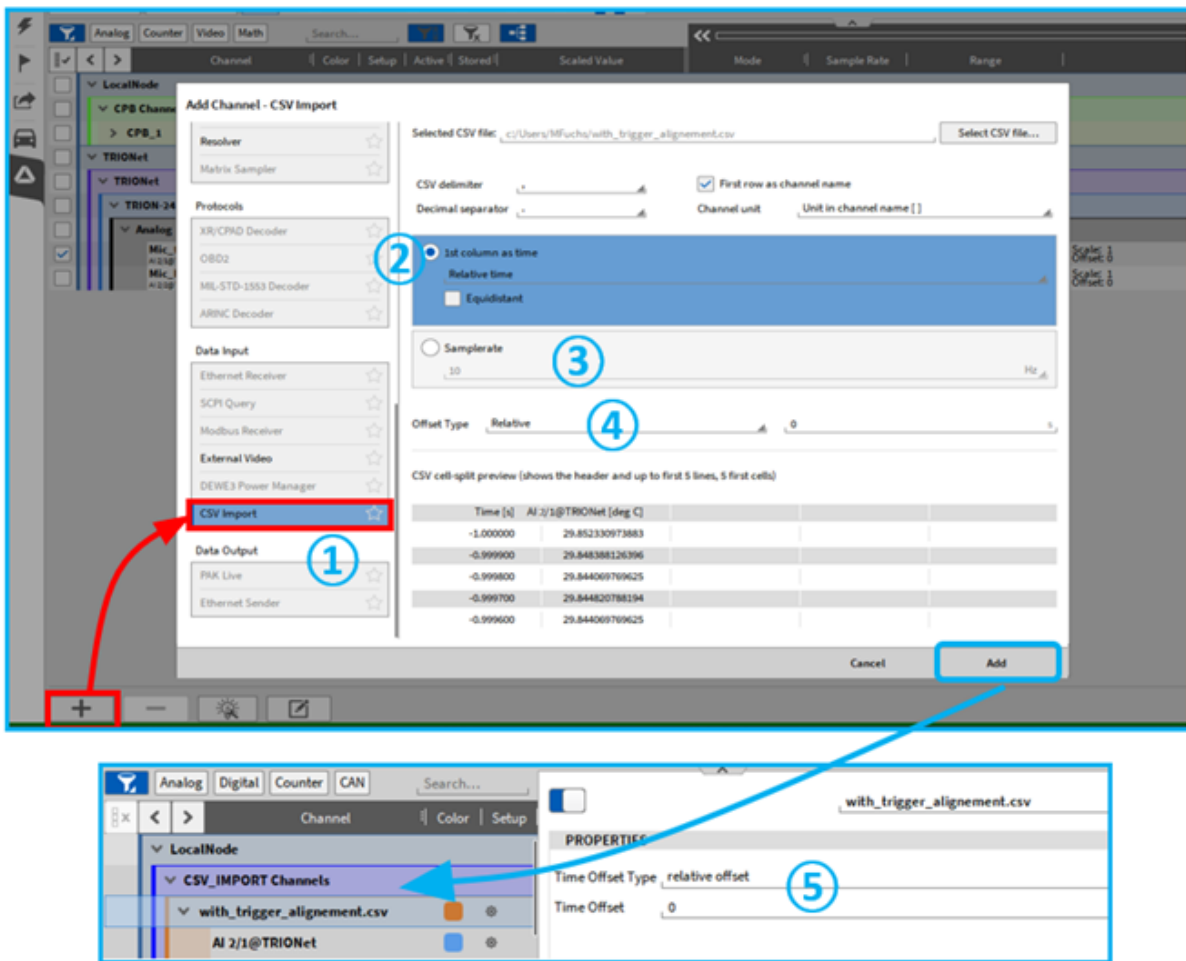

Fig. 7.160: CSV import
In OXYGEN Viewer it is possible to import CSV data as a channel. This is only available in PLAY mode (see ① in Fig. 7.160). The first column can be interpreted as relative or absolute time (see ② in Fig. 7.160). In case no time is included a synchronous sample rate can be defined (see ③ in Fig. 7.160). An optional time offset can be defined before adding the channel (see ④ in Fig. 7.160) or subsequently in the properties (see ⑤ in Fig. 7.160). The imported channel can be found in the group CSV\_IMPORT Channels in the channel list.